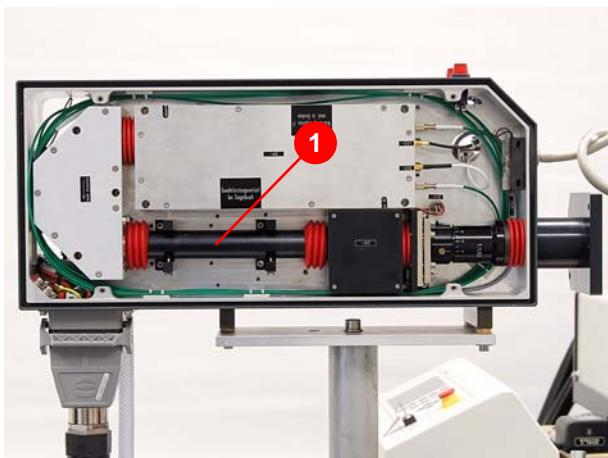

Figure 6.26 Dismantling the beam guide
4. Dismantle the beam guide (1) (Figure 6.26).